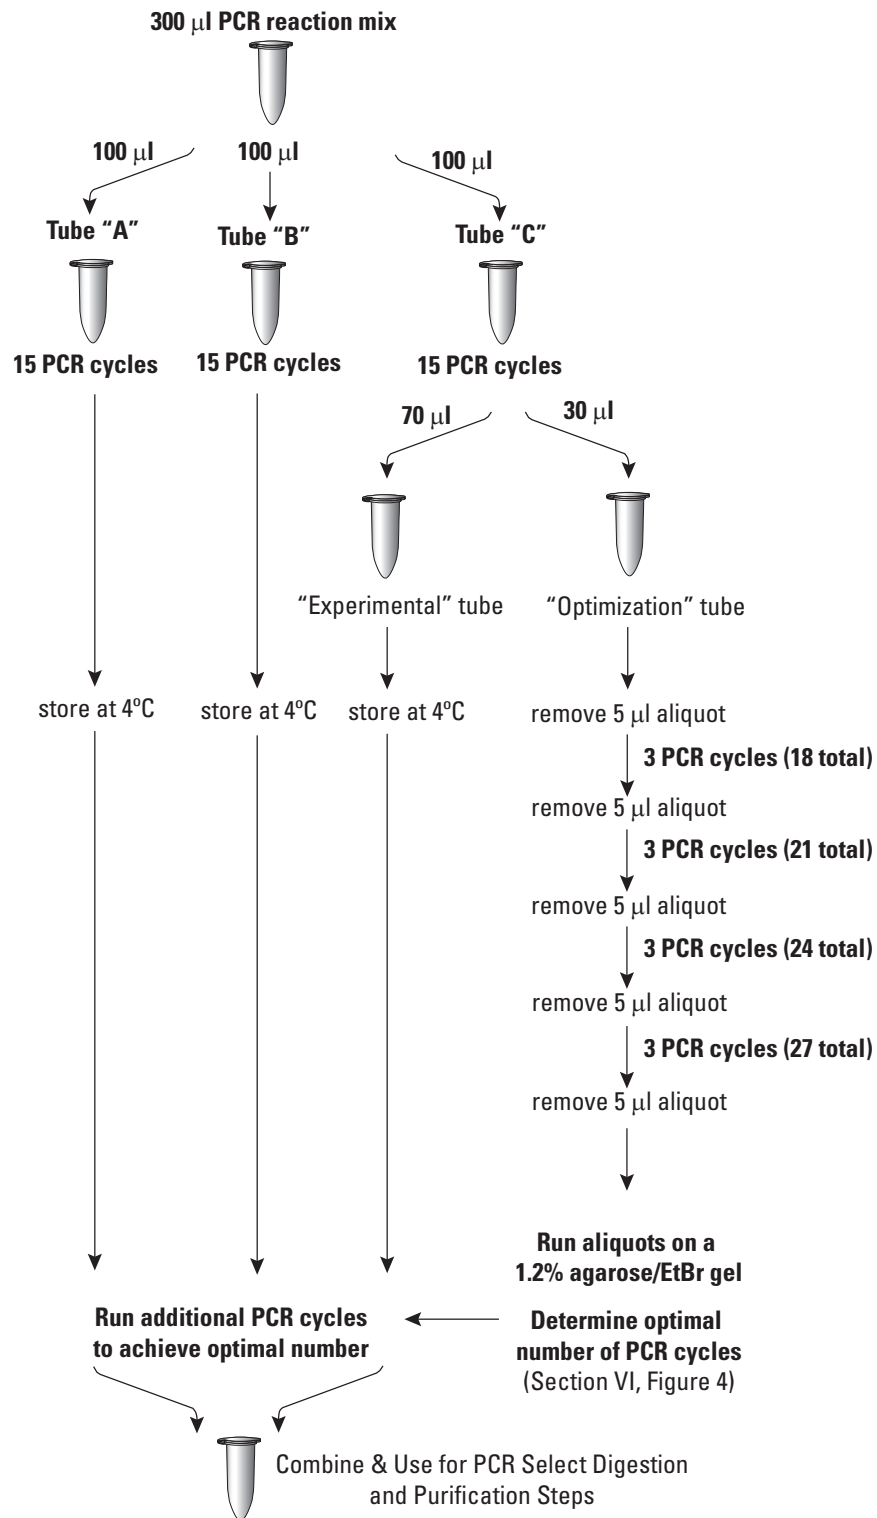

Figure 5. Optimizing PCR parameters for SMARTer cDNA synthesis for use with Clontech PCR-Select.
Guidelines for optimizing your PCR, depending on the amount of total RNA used in the first-strand synthesis, are provided in Table I (see Section V). These guidelines were determined using the Control Mouse Liver Total RNA and a hot-lid thermal cycler; optimal parameters may vary with different templates and thermal cyclers. To determine the optimal number of cycles for your sample and conditions, we strongly recommend that you perform a range of cycles: 15, 18, 21, 24 and 27 cycles (Figure 5).
To generate sufficient cDNA for PCR Select subtraction, you should set up three 100 µl PCR reactions, labeled "A," "B," and "C," for each tester and driver sample (Figure 5). In our experience, each PCR reaction will typically yield 1–3 µg of ds cDNA. Subtraction usually requires 2 µg of driver cDNA, so the three combined tubes of SMARTer cDNA should produce sufficient cDNA, taking into account any loss from column chromatography; three tubes will also be ample for the tester. To ensure that you have sufficient cDNA, you should estimate the yield of SMARTer cDNA by UV spectrophotometry.
9. Subject each reaction tube to 15 cycles, then pause the program. Transfer 30 µl from Tube C to a second reaction tube labeled "Optimization." Store Tubes A and B, and the "Experimental" tube containing the remaining 70 µl of Tube C, at 4°C. Using the Optimization PCR tube, determine the optimal number of PCR cycles (see Figure 5, Appendix A):
For best results, you must optimize the PCR cycling parameters for your experiment, as described in Section B (Figure 5). Choosing the optimal number of PCR cycles ensures that the ds cDNA will remain in the exponential phase of amplification. When the yield of PCR products stops increasing with more cycles, the reaction has reached its plateau. Overcycled cDNA is a very poor template for cDNA subtraction. Undercycling, on the other hand, results in a lower yield of your PCR product. The optimal number of cycles for your experiment is one cycle fewer than is needed to reach the plateau. Be conservative: when in doubt, it is better to use fewer cycles than too many.